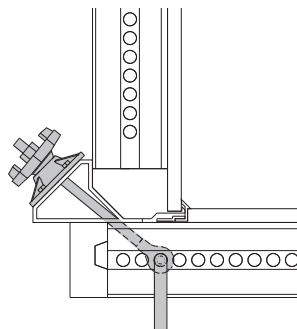

Fig. A3.07
1. Insert tie yoke through the corner connection. (Fig. A3.07)
2. Insert bolts in the perforated strip. (Fig. A3.07)
3. Tighten with nuts. (Fig. A3.07)